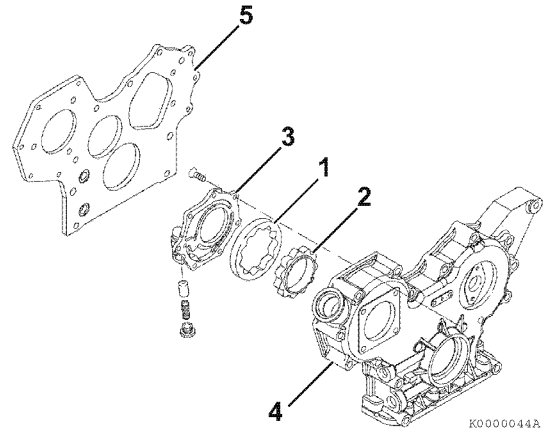

Figure 9-12
1. Lubricate the outer rotor (1, **Figure 9-12**), inner rotor (2, **Figure 9-12**) and pump bore in the gear case cover with clean engine oil.
5. Reinstall the oil pump cover (3, **Figure 9-12**). Apply LOCTITE 290 (green) or LOCTITE 262 (red) to the oil pump cover screws. (Follow LOCTITE package instructions.) Tighten the pump cover screws to 61 ± 13 in·lb (6.9 ± 1.5 N·m, 0.7 ± 0.15 kgf·m).